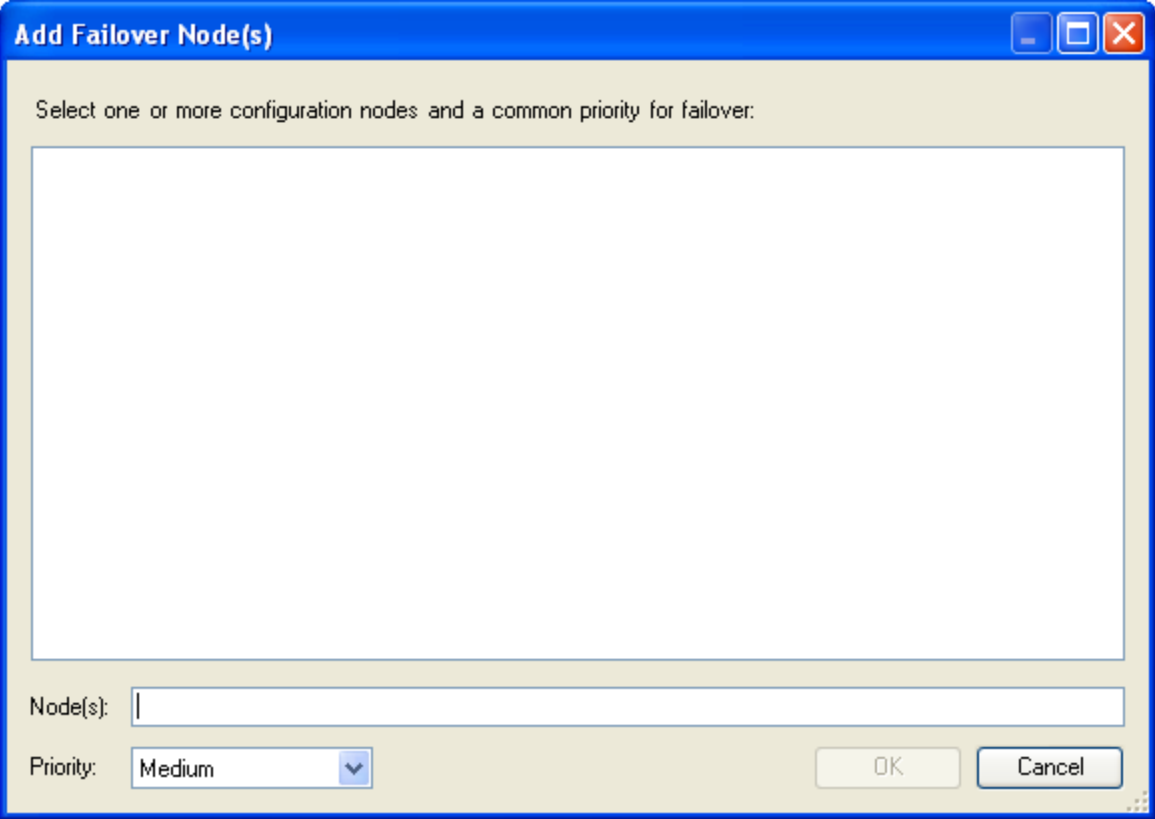

Figure 39 - Add Failover Node(s) Window
| Add Failover Node(s) | Select this button to access the Add Failover Nodes(s) window (Figure 39) which allows you to define one or more Failover nodes and assign a priority to them. After defining the list of nodes, they will appear listed in the Failover Nodes section of the New Redundancy window. Note: Once you have added a node, you can make changes to it, or delete it, or change its order within the list. |
- b. The **Add Failover Node(s)** window (Figure 39) appears.